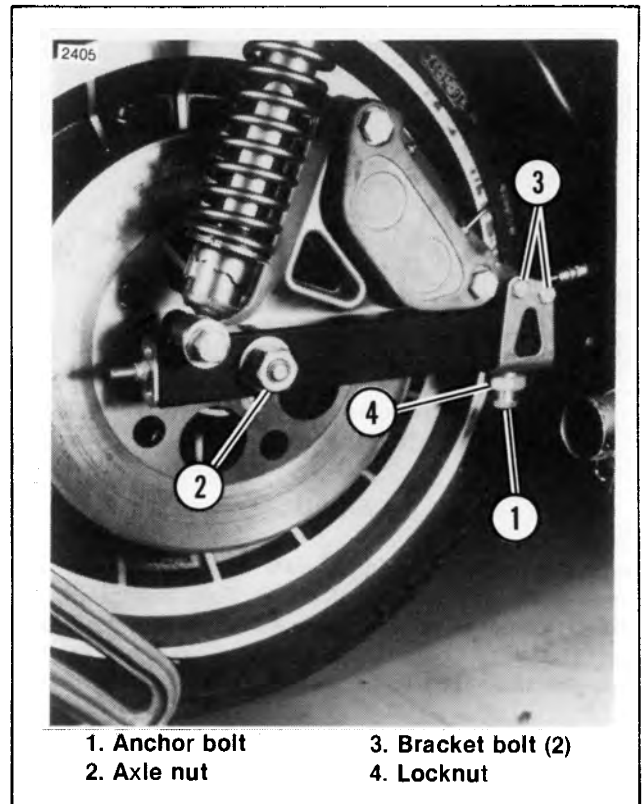

Figure 2-10. Rear Wheel Removal — FLT Models
4. See Figure 2-10. Remove brake anchor bracket bolts (3) and anchor. Remove axle nut (2), lockwasher and washer and tap axle out far enough to clear wheel, yet still supporting sprocket and chain housing. Slide brake caliper up and swing away from wheel. Separate wheel from sprocket and chain housing.
1. See Figure 2-10. Place the wheel in the rear swing arm with brake disc to the right side. Place brake caliper in position.
2. Tap the axle through the wheel and swing arm from the left side of the motorcycle. Install the axle washer, lockwasher and axle nut (2).
3. Install the brake anchor and two bracket bolts (3) to the brake caliper. Install the brake line and clip to the front anchor bracket bolt (3). Tighten anchor bolt (1) and locknut (4).